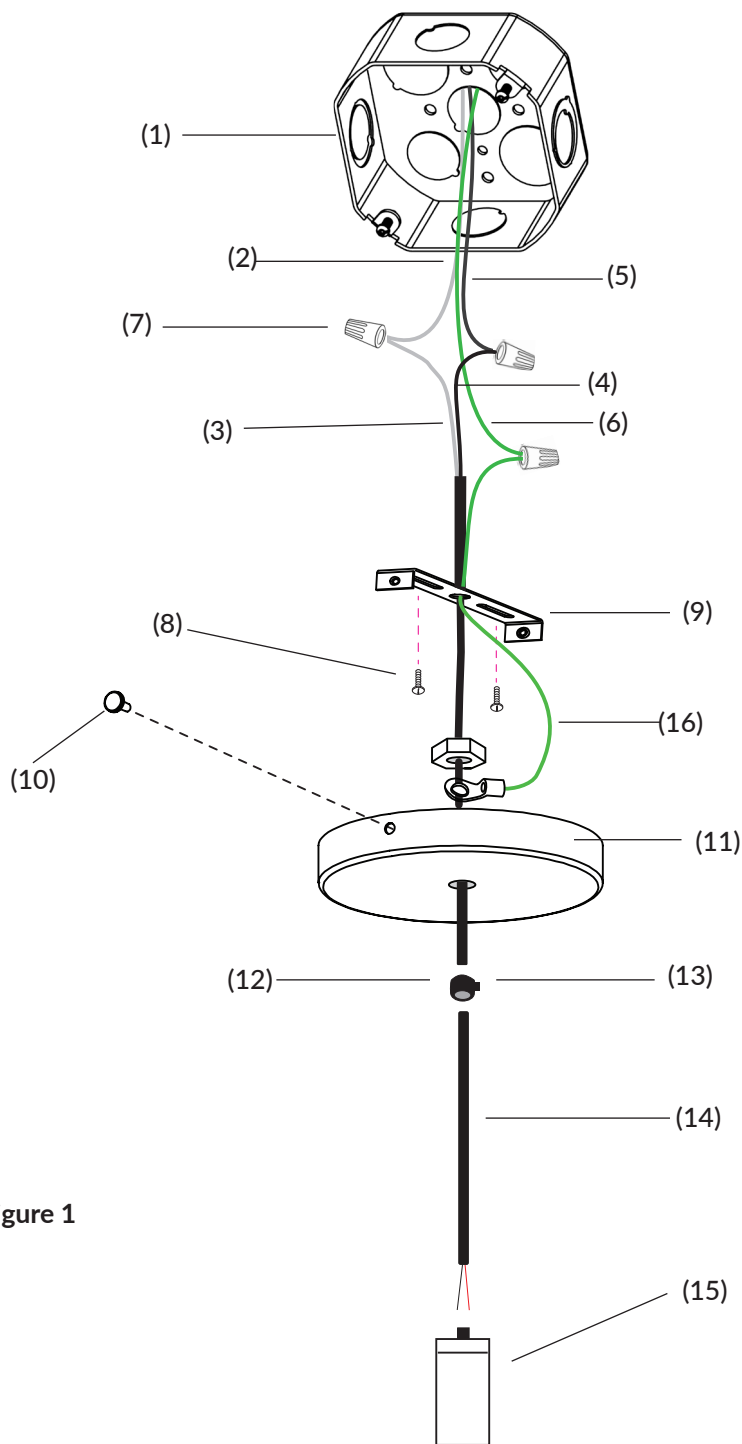

Figure 1
6. *See Figure 1*. Using the wire connectors(7), connect the white supply wire(2) to the white fixture wire(3); connect the black supply wire(5) to the black fixture wire(4); and connect the house ground wire(6) to the fixture ground wire(16). Tuck the wires back into the junction box(1).
7. To secure the mounting bracket(9) to the junction box(1), align the holes of the mounting bracket(9) with the holes in the junction box(1). Insert and tighten the two mounting screws(8).
8. To secure the canopy(11) to the mounting bracket(9), align the two holes on the sides of the canopy(11) with the holes on the sides of the mounting bracket(9). Then insert and tighten the two bracket screws(10) through the canopy into the bracket(9) to secure everything together.